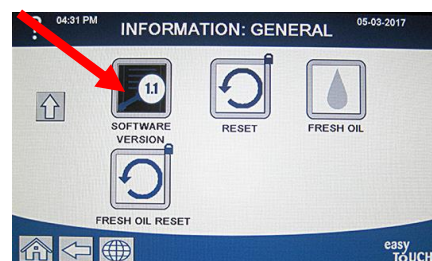

Figure 21
19. Press the software version button (see Figure 21) on the next page.
15. Press the software version button (see Figure 21).